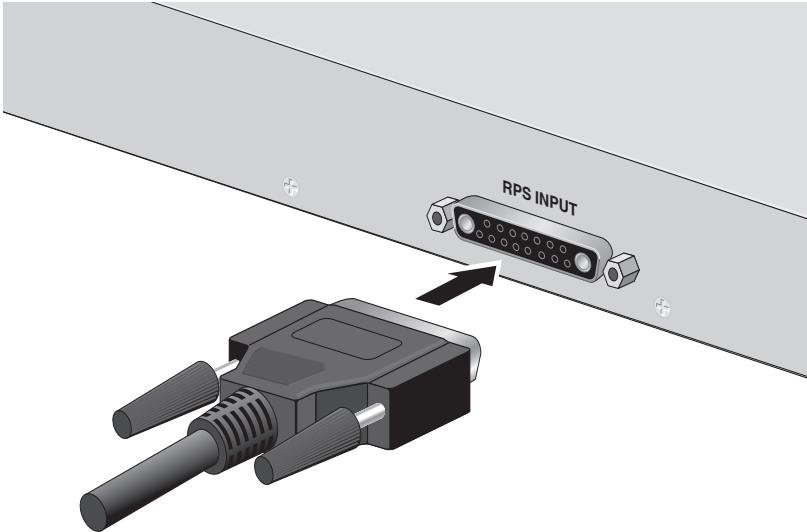

Figure 20. Connecting the RPS Cable to the Switch
- Plug one end of a 17-pin D-combo connector RPS cable into the connector labeled “RPS INPUT” on the rear panel of an AT-8524POE switch (see Figure 20).